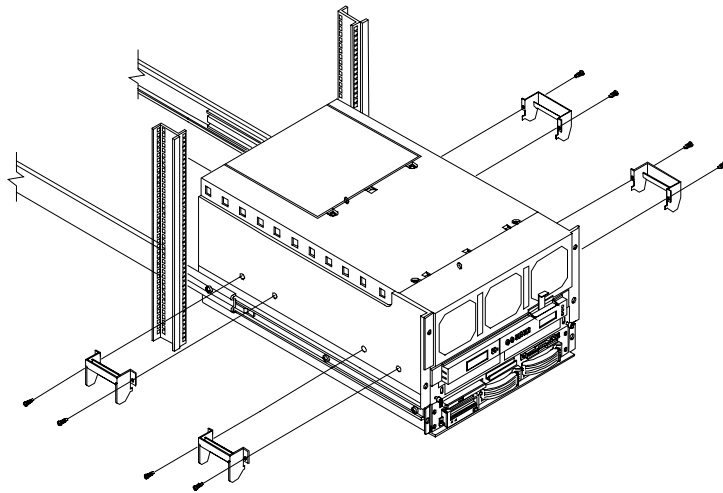

Figure 4-4. Removing Lifting Handles
4. Remove the two screws from each of the four lifting handles and remove the handles, as shown in Figure 4-4. Keep these handles and screws for later use, in case you need to remove the HP NetServer and ship it.